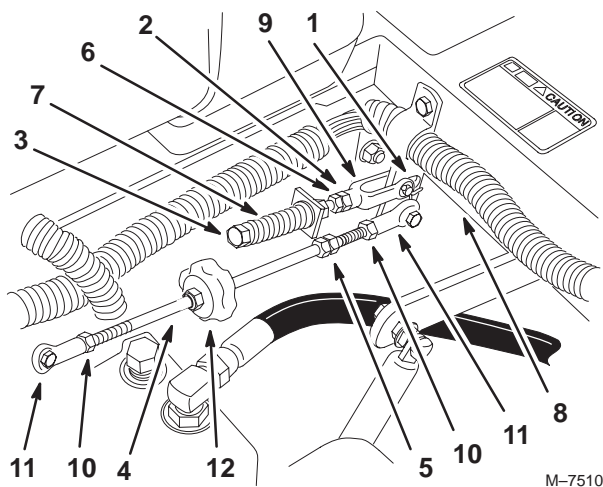

Figure 60
5. Move lever to the neutral position but **not locked** (Fig. 60).
6. Pull lever back until the clevis pin (on arm below pivot shaft) contacts the end of the slot (just beginning to put pressure on the spring) (Fig. 60).
8. If adjustment is needed, loosen the nut and jam nut against the yoke (Fig. 60).
10. Tighten the nut and jam nut (Fig. 60).
2. Adjust pump rod length by rotating the knob, in the appropriate direction, until the wheel is still or slightly creeping in reverse (Fig. 60).